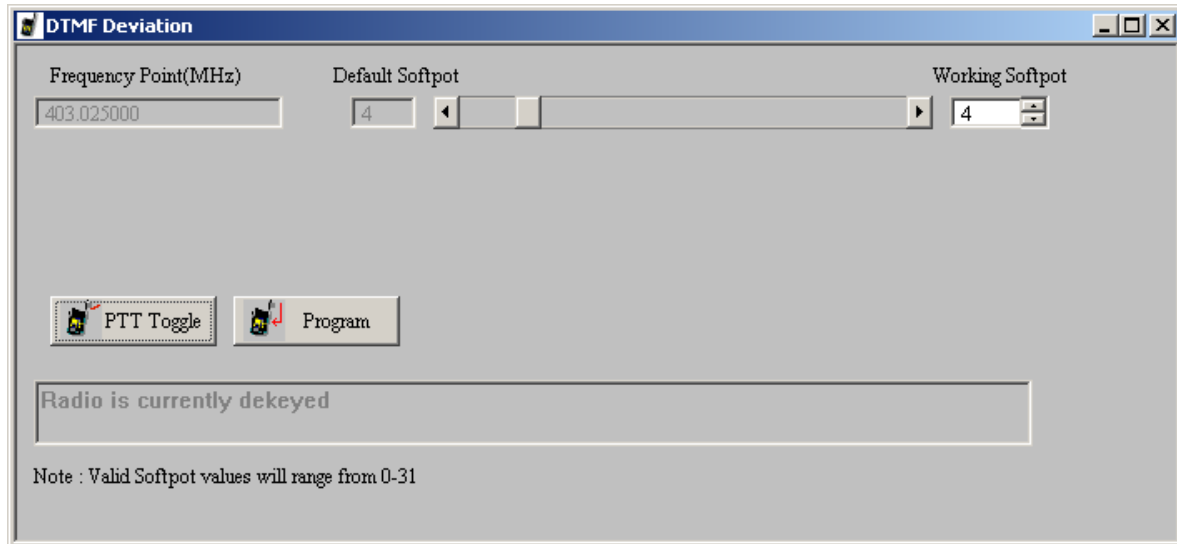

Figure 4-7. DTMF Deviation Tuning Window
1. Under **Tx Align**, select **DTMF Deviation** (Figure 4-7).